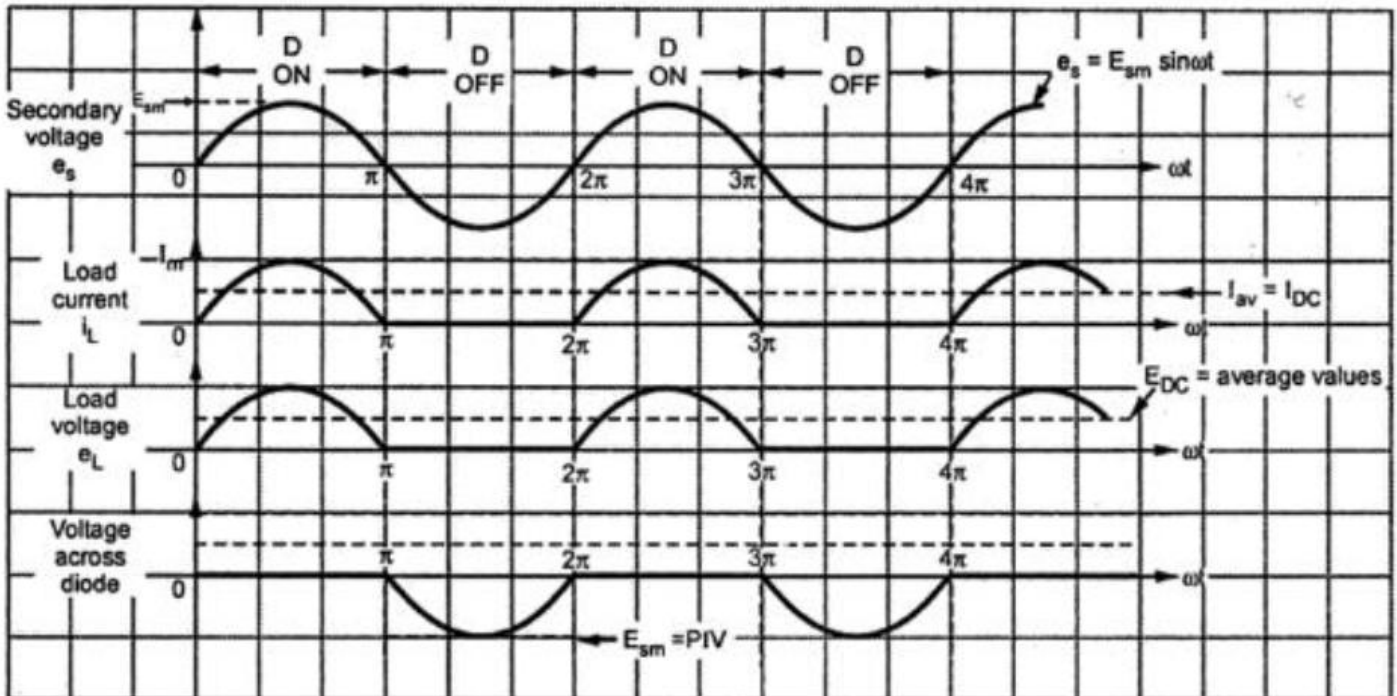

Fig. 1.23 Waveforms of Half wave Rectifier
- The different waveforms are illustrated in Fig. 1.23.